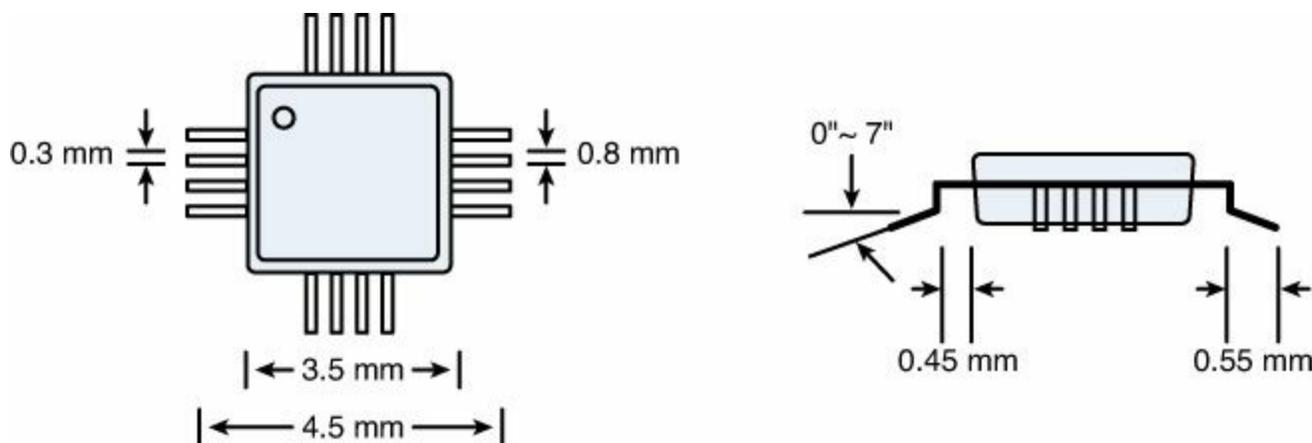

Figure 8.4: The 16-Lead Thin Quad Flat Package
Now that the symbol is complete, the next step is to draw a package for the example device. A quad flat package (QFP) is a package for integrated circuits whose surface mount leads extend on all four sides. A common variant of the QFP is the thin quad flat package, or TQFP, whose profile isn't as thick. Most TQFP devices have between 32 and 256 leads, but our example SIMPLE-TQFP device has 16 leads with 4 on each side. Figure 8.4 shows what the actual device looks like.
1. As shown in Figure 8.4, the dimensions of the package body are 3.5 x 3.5mm. To draw this in the editor, the grid spacing should be set to one-half the minimum dimension, or 1.75mm. Select the Grid tool, set the dimension to mm and the size to 1.75. Click OK and the grid marks will be spaced 1.75mm apart.
In deciding on the size of the pads, there are two constraints: the pads must touch the device's leads and they must not come in contact with one another. As shown in Figure 8.4, the leads are 0.35mm wide and their centers are spaced 0.8mm away from one another. Therefore, a suitable pad width should be around 0.5mm.
1. As shown in Figure 8.4, the leads of the device are spaced 0.8mm apart, so the grid spacing should be set to 0.4mm. To configure this, select the Grid item in the toolbar, set the dimension to mm, and set size to 0.4. You may also want to set the alternative grid spacing to 0.04mm.